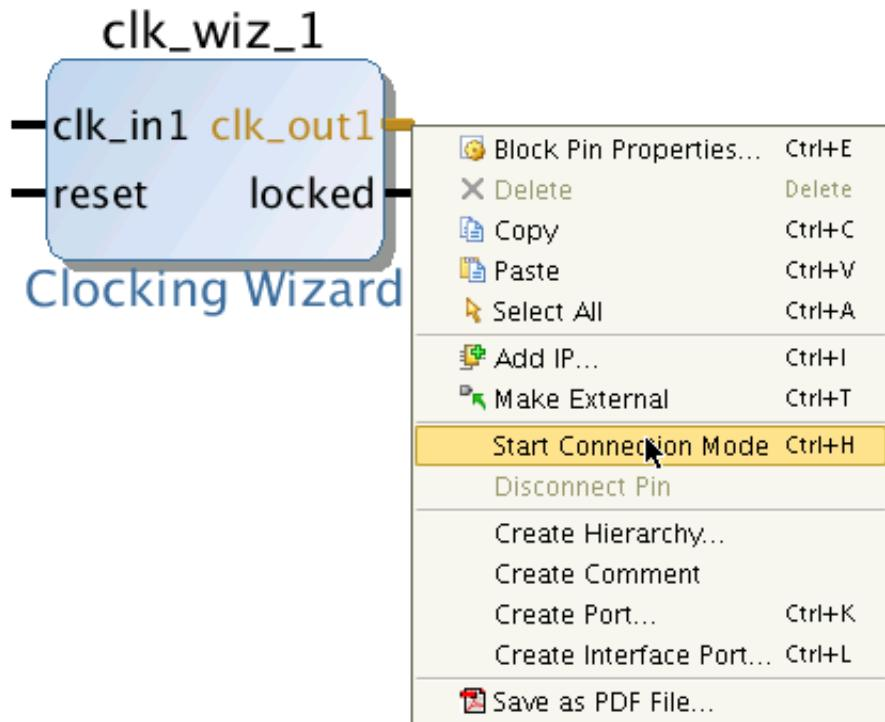

Figure 53: Start Connection Mode from Popup Menu
2. To make connections from one source to multiple destinations, right-click the source port, and select **Start Connection Mode**, (Figure 53).